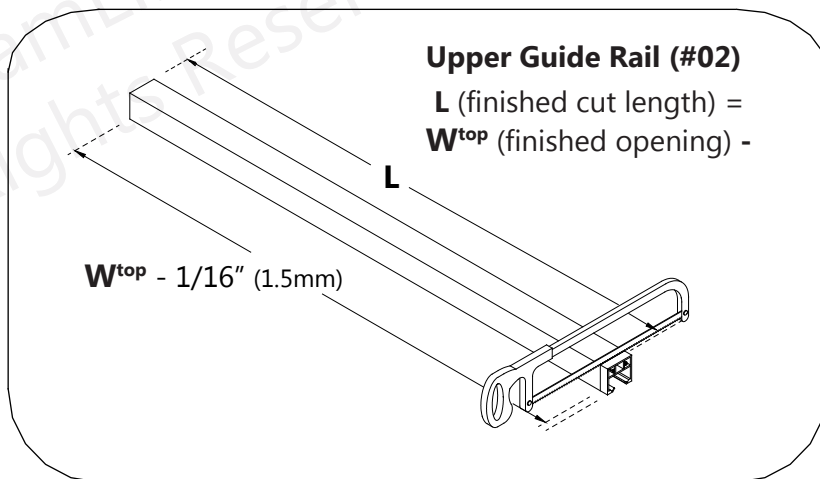

Fig 2a
2. Use a miter saw or hacksaw to cut the **Upper Guide Rail (#02)** 1/16" shorter than the top dimension W^{top} from step #1. ($W^{top} - 1/16" = \text{finished cut length } L$) (Fig 2a)
The Bottom Guide Rail (#15) needs to be cut equally from both ends to keep the center guide holes centered. (The **Bottom Guide Rail (#15)** has been precut for the model size. See Table A). Using a miter saw or hack saw, cut the **Bottom Guide Rail (#15)** 3/4" shorter than the bottom dimension W^{bot} from step #1. ($W^{bot} - 3/4" = \text{finished cut length } L$) (Fig 2a and 2b)